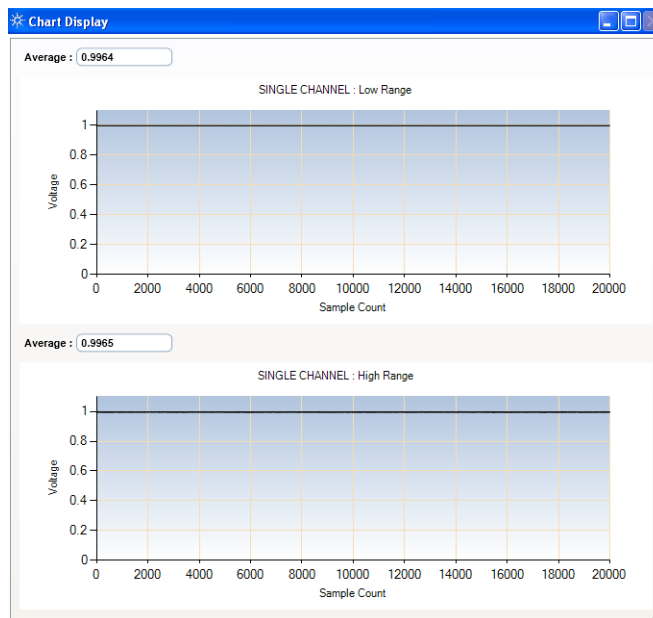

Figure 3-5 Captured waveform for DC verification
STEP 1 — Connect the port to the primary auxiliary Select the multiplexer as shown in Figure 3-5. The M9216A should already be in *Multiple Channel* Measure Mode when started up. If not, please select *Multiple Channel* Mode first before proceeding. Note that changing the measurement mode will cause a hardware reset.